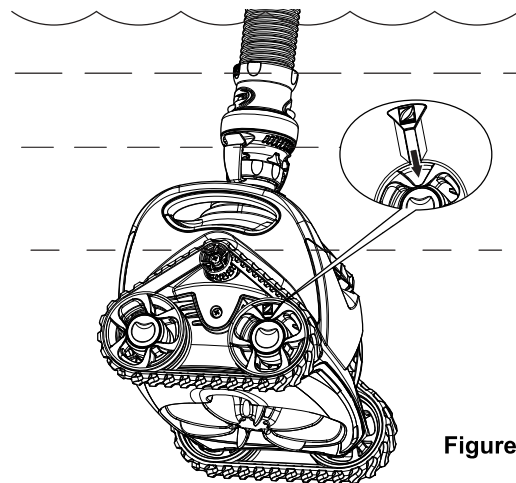

Figure 8
4. Locate the yellow wheel speed indicator inside the wheel rim on the handle side of the cleaner (Figure 8).